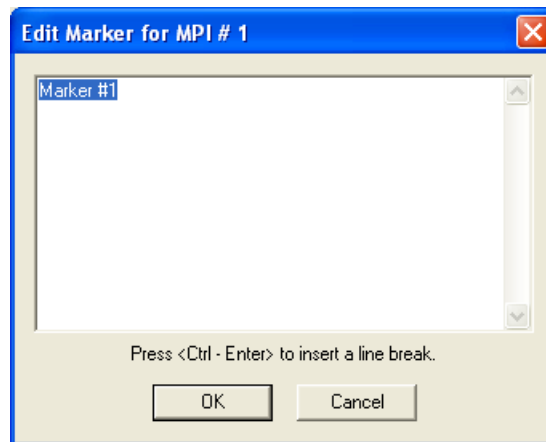

Figure 3.20 Edit Marker for Frame Dialog Box
Step 3 The **Edit Marker for Frame #** dialog box appears (Figure 3.20).
Step 2 To edit the marker comment, select **Edit Marker** to display the **Edit Marker for Frame #** comment window (Figure 3.20).